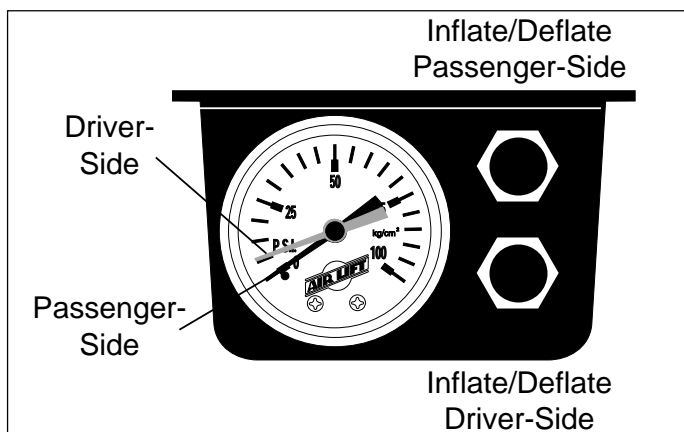

Figure 3
1. Remove the caps and attach the air chuck to the fill valves on the front of the panel (Figure 3). Inflate until the desired pressure has been obtained. Replace the cap.